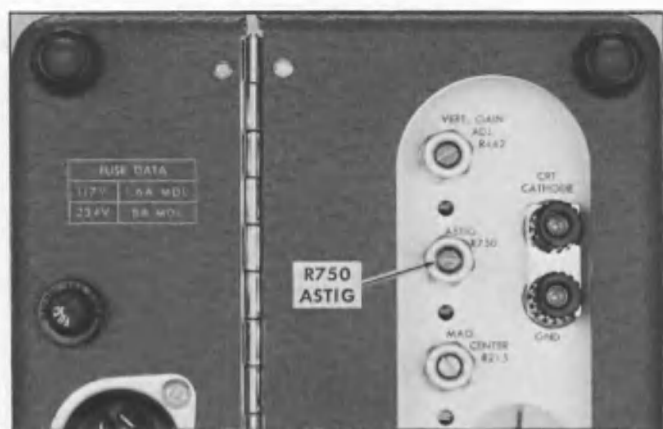

Fig. 5-6. Location of ASTIG adjustment (rear panel).
e. ADJUST—FOCUS control and ASTIG adjustment, R750 (see Fig. 5-6), for best definition of the CRT display.